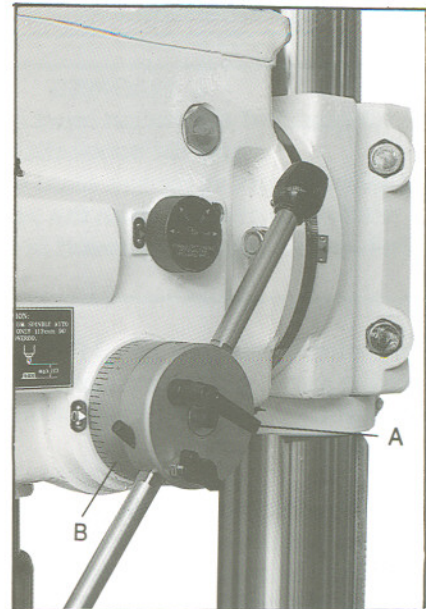

Fig. 12
1. Loosen the depth stop lock handle (A, Fig. 12).
3. With the other hand, turn the depth stop scale (B, Fig. 12) counter-clockwise to zero.
4. Tighten the depth stop lock handle (A, Fig. 12). The depth stop will now stop the drill at the pre-determined setting.
1. Loosen the depth stop lock handle (A, Fig. 12) so it does not interfere with the internal depth stop located on the front of the drill head.